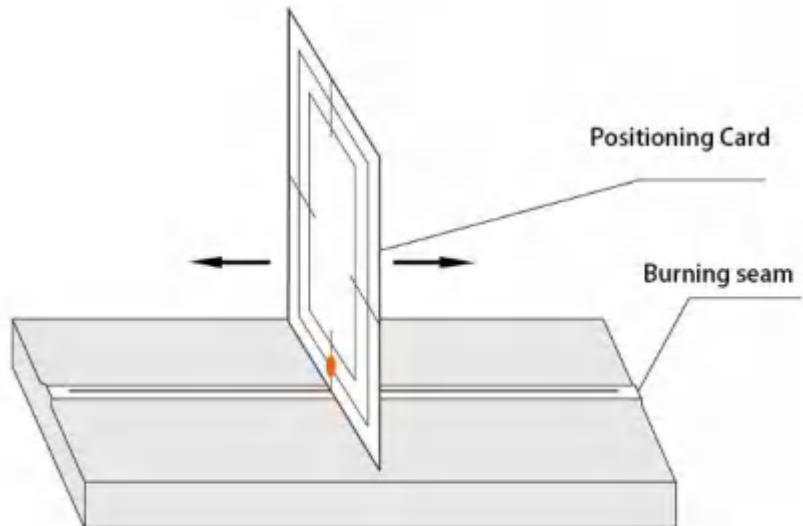

Fig. 2-9 Adjust burner position/angle
- 1) Correction of the front and rear position of the burner: Light up the hollow cathode lamp such as Cu element (providing a light spot that is clearly visible to the naked eye), place the "flame cleaning card" in the spare part on the upper end face of the burner, and the converging light spot of the hollow cathode lamp can be observed. , as shown in Figure 2.9. Loosen the front and rear fixing screws of the atomizer, the front and rear positions of the atomizer can be adjusted as a whole, so that the light spot is in the left and right center position, and then tighten the atomizer screws after adjustment.